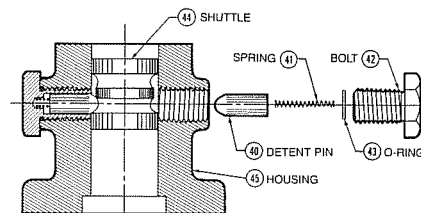

Figure 7-18, Partial assembly of pilot air valve.
7.3.4 On flat surface, insert shuttle (44) into air valve housing (45) so that shuttle groove nearest air end plate aligns with detent holes in housing. Lubricate detent pins (40) with Molykote® and install along with springs (41), o-rings (43) and bolts (42) in pilot air valve housing (45). See Figure 7-18. Do not over-tighten bolts (42).